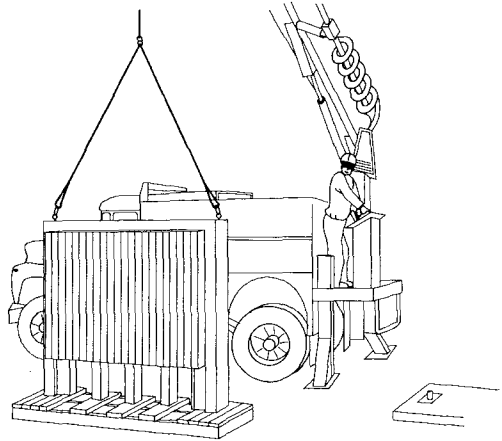
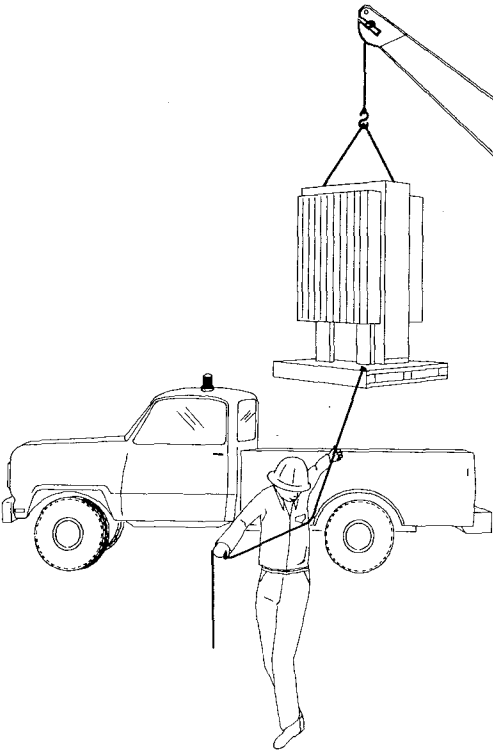

Fig. 16—Cabinet Positioned Next to Pad
Fig. 15—Moving Cabinet to Foundation Pad
5.04 Lift the cabinet (Fig. 15) and place it on a clear, level area adjacent to the foundation pad (Fig. 16). Keep the boom line taut to prevent the cabinet from tipping over while it is being prepared for installation.